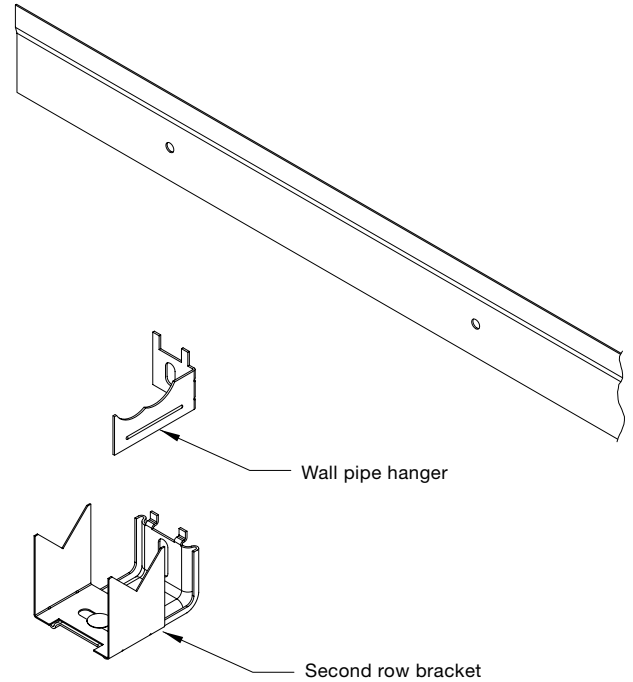

Figure S-3
3. On security units the second row brackets and wall pipe hangers will be mounted directly to the wall. (The brackets and pipe hangers should be installed approximately 36" apart.) Install the second row brackets and wall pipe hangers to the wall using fasteners suitable for wall construction. (Figure S-3)